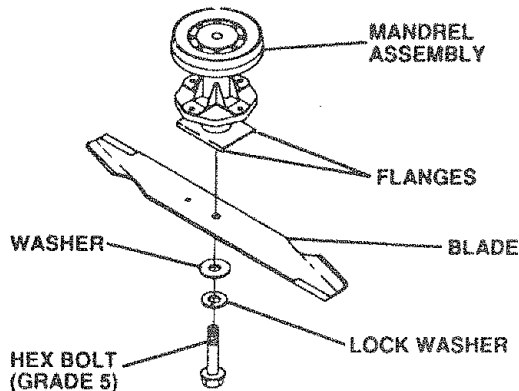

FIGURE 44
- Remove bolt, lockwasher and washer (Fig. 44) (turn counterclockwise) (↺).